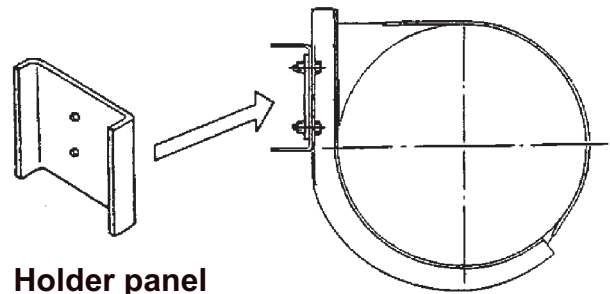

Fig. 1
- Attach a stiffener to the inside of the side rail as shown in Fig. 1 when installing bolts to support heavy components on the side rail overhang. This will prevent cracks in the frame due to resonance of the component if the static load caused by the weight of the component exceeds 100 kg {220 lb} of force for each bolt.